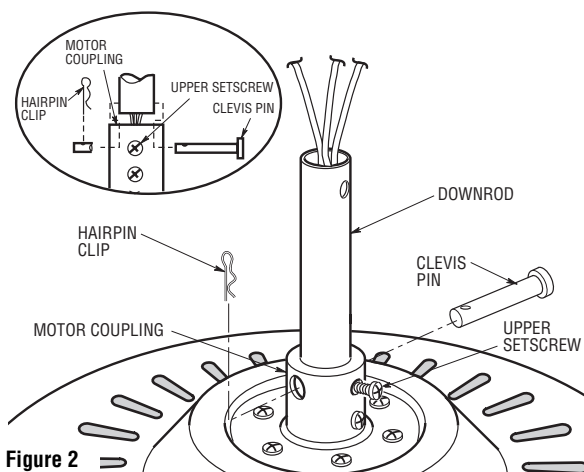

Figure 2
2. Unscrew the two upper setscrews (Figure 2) until they clear the inside of the motor coupling. Then separate, untwist and unkink the three 80" motor leads. Route the motor lead wires through the downrod. Align the clevis pin holes in the downrod with the holes in the motor coupling. Install the clevis pin and secure with the hairpin clip (Figure 2). The clevis pin must go through the holes in the motor coupling and the holes in the downrod. Be sure to push the straight leg of the hairpin clip through the hole near the end of the clevis pin until the curved portion of the hairpin clip snaps around the clevis pin. The hairpin clip must be properly installed to prevent the clevis pin from working loose. Pull on the downrod to make sure the clevis pin is properly installed.
It is critical that the clevis pin in the motor coupling is properly installed and the setscrew securely tightened. Failure to verify that the pin and setscrew are properly installed (as shown in Figure 2) could result in the fan falling.
3. Tighten the two upper setscrews (Figure 2) securely while pulling up on the downrod.